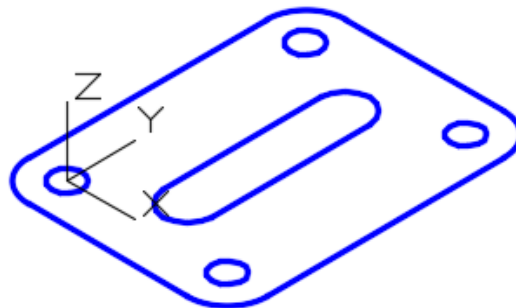

Figure Step 5
Step 5 Set the current UCS to Top and locate it at the center of the circle as shown in the figure. (Figure Step 5)